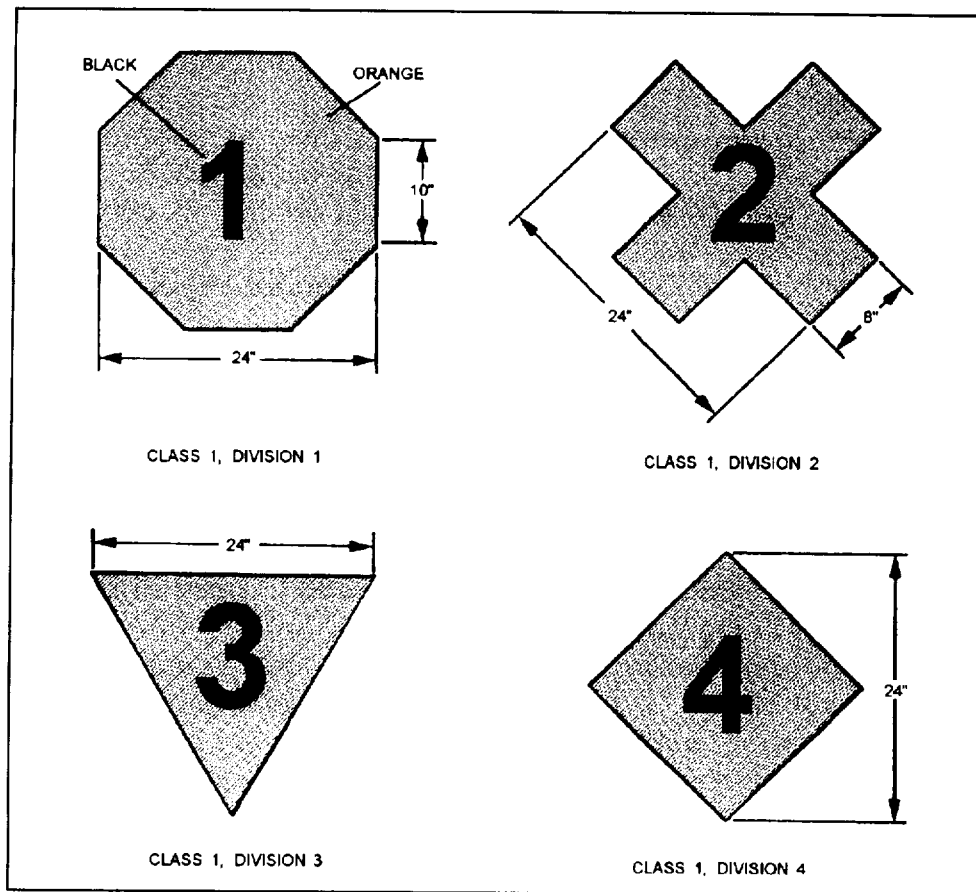

Figure 2-1.—Fire division symbols.
**FIRE SYMBOLS.**— The fire symbols shown in figure 2-1, represent the four class-1 explosives divisions. The hazard decreases as the fire division symbol number increases. These symbols also designate those items that are hazardous to fire-fighting personnel and the burning or explosive characteristics of the stored material. Each of the four symbols has a distinctive shape, is colored orange, and has the class division number shown in the middle of the shape in black. The hazard and fire-fighting precautions for each symbol are summarized in table 4-1 of NAVSEA OP 5, volume 1.